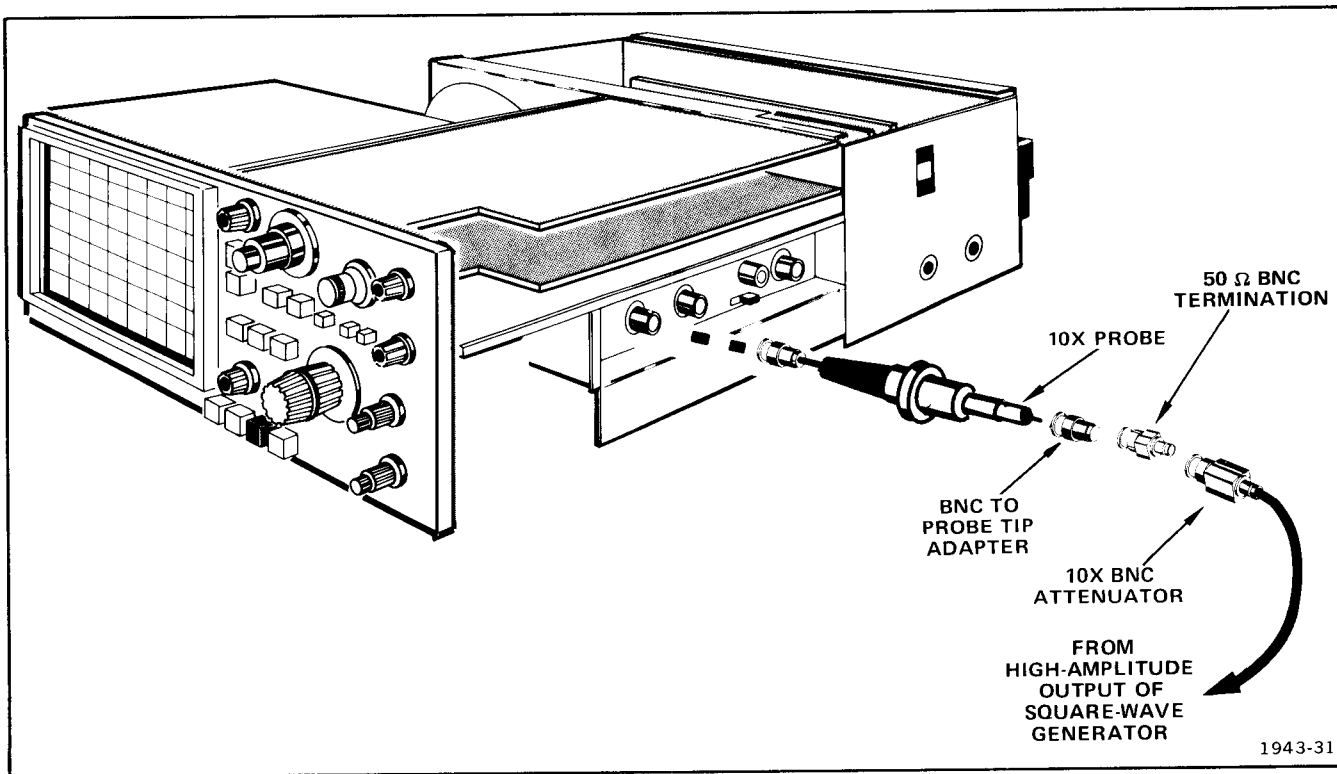

Fig. 6-7. Equipment setup.
- b. Connect test equipment to CH 1 VERT INPUT connector as shown in Fig. 6-7.